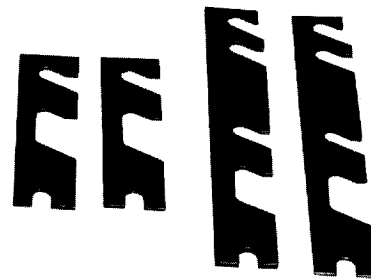

Fig. 59 Track Shims
- (a) Using track width gauge, (Fig. 58) adjust width of tracks using shims (Fig. 59).